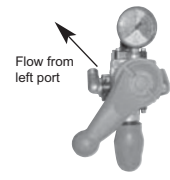

Figure 3: Left outlet port control position
4. To control to just the left outlet port, rotate the control lever to the 7:30 position such that the letters "DX" are aligned to the pressure adjustment knob. See Figure 3.